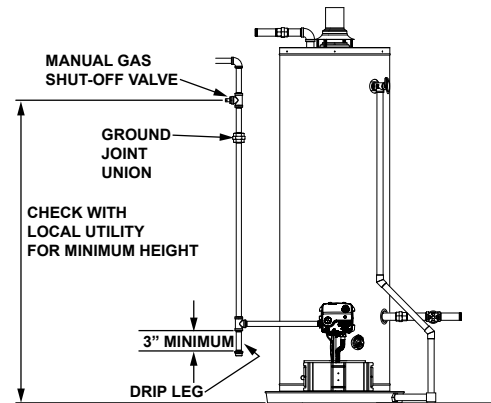

FIGURE 13.
**NOTE:** Use pipe joint compound or teflon tape marked as being resistant to the action of petroleum [Propane (L.P.)] gases. (See Figure 13.)